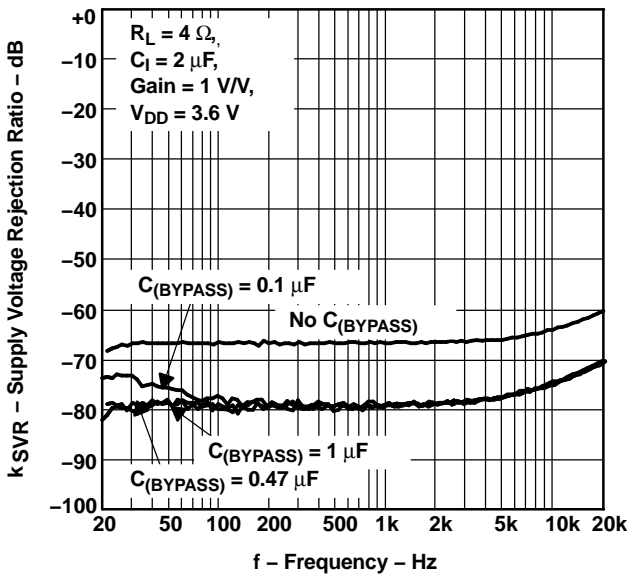

Figure 17.
- Mid-supply bypass capacitor, $C_{(BYPASS)}$, not required:** The fully differential amplifier does not require a bypass capacitor. Any shift in the mid-supply voltage affects both positive and negative channels equally, thus canceling at the differential output. Removing the bypass capacitor slightly worsens power supply rejection ratio (K_{SVR}), but a slight decrease of K_{SVR} may be acceptable when an additional component can be eliminated (See Figure 17).